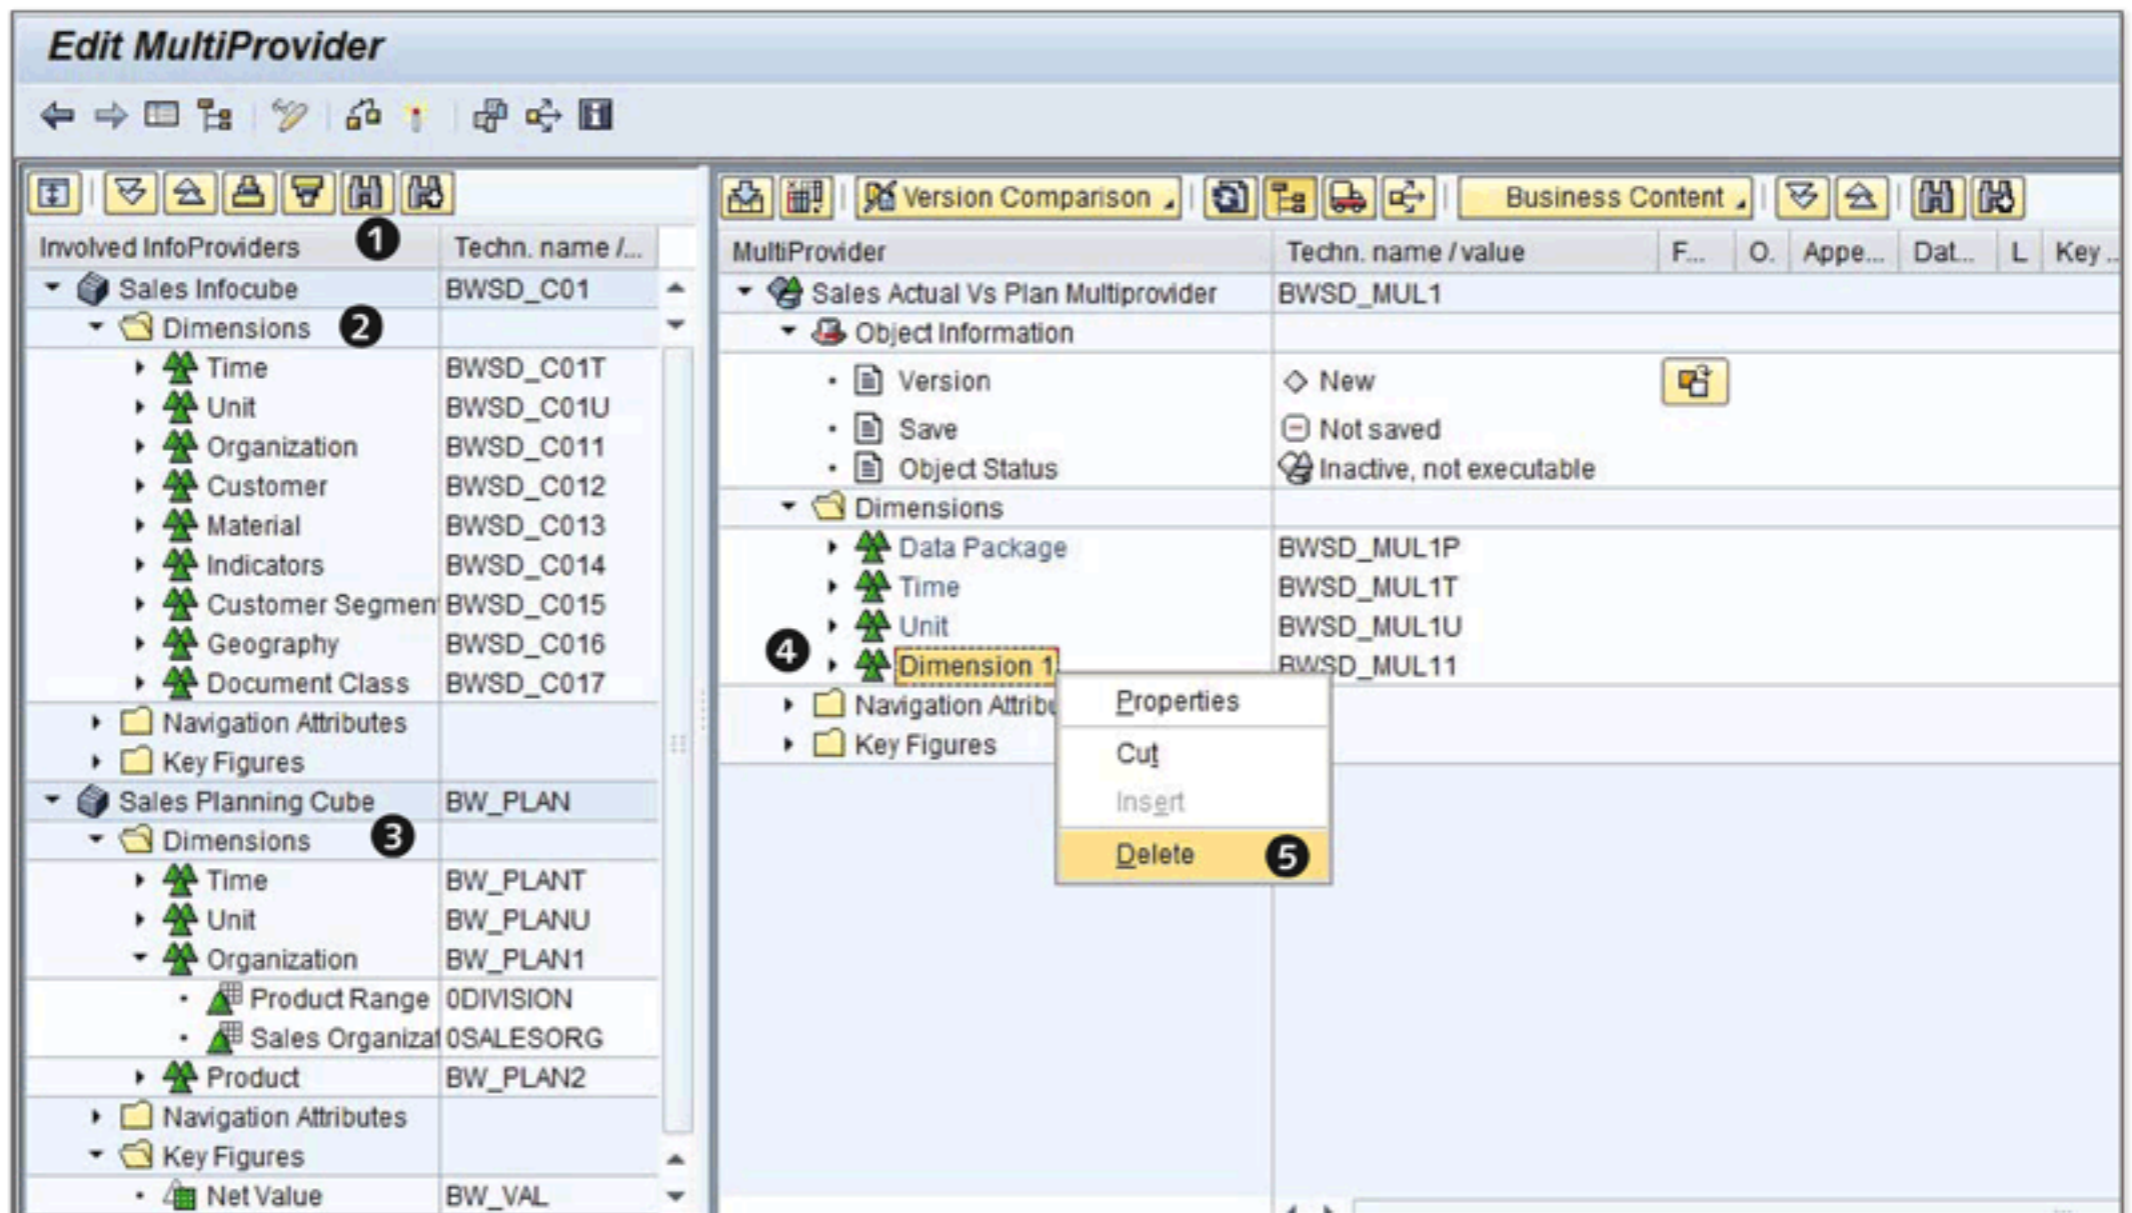

Figure 6.7 Edit MultiProvider: Deleting Dimension 1
The dimensions of InfoCube BWSD_C01 and BW_PLAN are shown in ❶, ❷, and ❸ of Figure 6.7. In this figure, characteristics within the ORGANIZATION for SALES PLANNING CUBE dimension are shown in detail. Because a MultiProvider exists as a logical definition and doesn't physically store data, the design of various dimensions isn't as vital as it is during the design of a standard InfoCube. Dimension design while creating a standard InfoCube, on the other hand, is a crucial step, because standard InfoCubes store data physically. A small error in dimension design can seriously and negatively affect the performance of queries. This doesn't apply to creating a MultiProvider, but attaching characteristics in logical groupings in various dimensions helps BEx Query Designer — so it's still recommended that you design dimensions.
First, let's delete DIMENSION 1, which is created by default by SAP NetWeaver BW. Select DIMENSION 1, as shown in ❹ of Figure 6.7, and open the context menu. Next, select DELETE (❺).